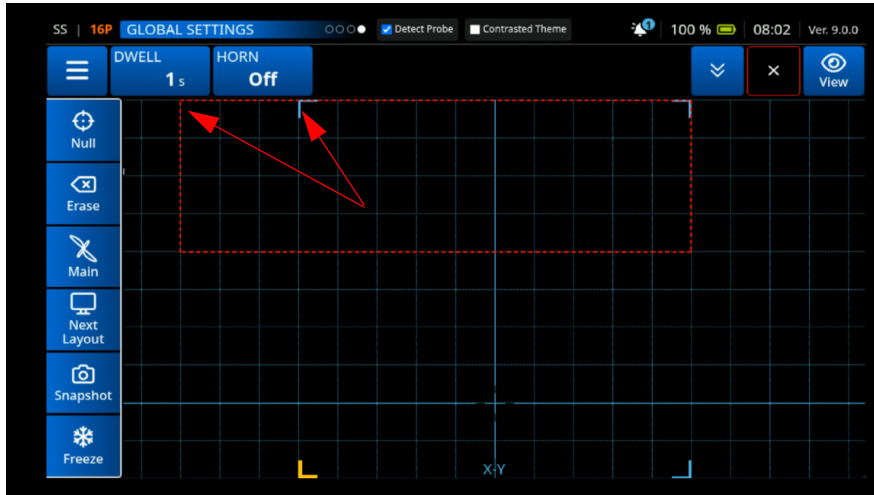

Figure 3-79 Adjust the Dwell Time and Horn
- Adjust the values for the alarm **Dwell Time** and the **Horn** (See Figure 3-79 on page 101).